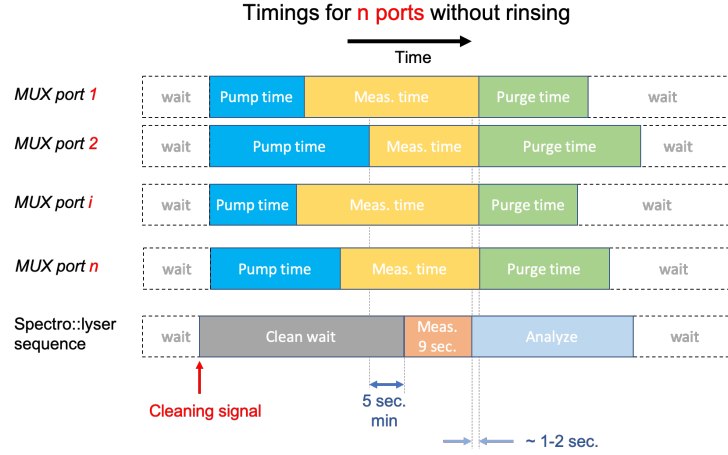

Figure 3.3: Adjusting the *pumping times* and *measurement times* of the MUX to match the sequence of events of the Spectro::lyser
1. In reality, the *pump time* may vary from sampling point to the next as it is preferable to pump the least amount of time per port to save energy and pump tubing. The *pump time* for each port is defined in the *config.txt* file. However, the *clean wait* time corresponds to a parameter from the Spectro::lyser, and the same value applies to all sampling points. As a result, the *clean wait* time **must correspond to the longest *pump time* + 5 seconds** (Figure 3.3).
2. Because it always takes the same amount of time between the *cleaning signal* and the last beep of the Spectro::lyser measurement, and, because the *pump time* may vary from one sampling point to the next, the (on the MUX side) **sum of *pump time* + the MUX *measurement time*** should also be the same and be equal to (on the Spectro::lyser side) **the *clean wait time* + the 9 sec. of measurement time + at least 2 seconds past the last measurement** (Figure 3.3).
As a result, the *pumping time* and the *measurement time* from the MUX must be adjusted (in the *config.txt* file) accordingly for each sampling point as illustrated in Figure 3.3